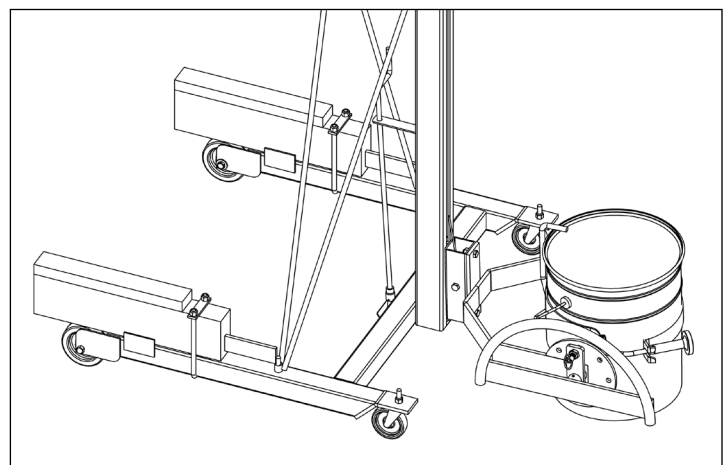

Figure 2
3. **Attaching the pail:** First, swing pivoting wire handle to lay on the back band side of the saddle. Next, close the front band hinge plate tightly against the pail (see Figure 2). Swing the clamp screw knob and engage the threaded rod into the slot on the front band hinge plate as shown in Figure 2. Tighten the clamp screw knob to secure the pail into the saddle.